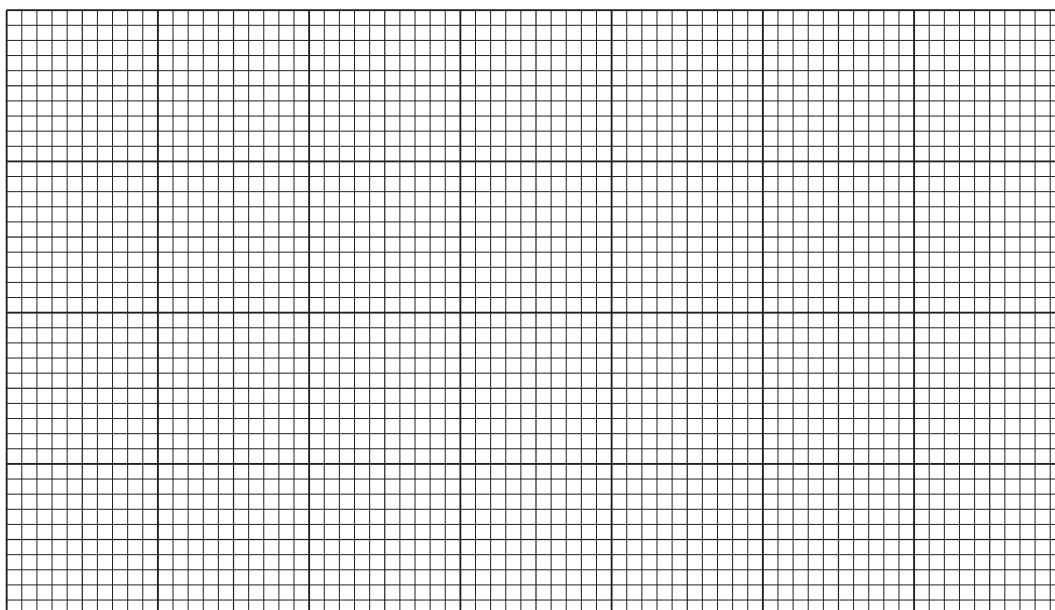

Fig. 1.4
- (ii) Plot a graph of the data shown in Table 1.2 on the grid in Fig. 1.4.
- (iii) Describe the trend shown by the graph in Fig. 1.4.
- (iv) Use the graph in Fig. 1.4 to find the time required for the rate of carbon dioxide production to be 1.75 au when the yeast was incubated at 35 °C.